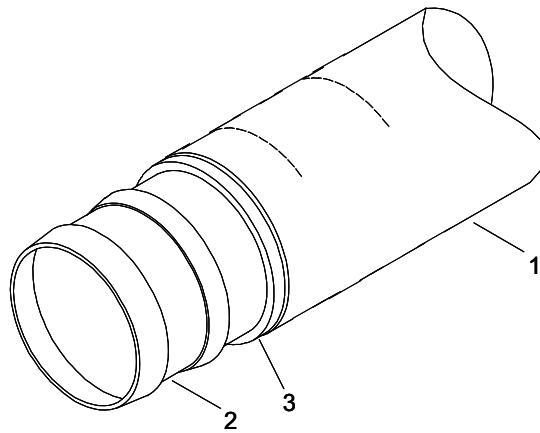

Figure 31. Hose Assembly Repair.
13. Install the hose assembly (Figure 31, Item 1) on the hose splice (Figure 31, Item 2) until it is flush with the machined stop (Figure 31, Item 3) in the center of the hose splice (Figure 31, Item 2).